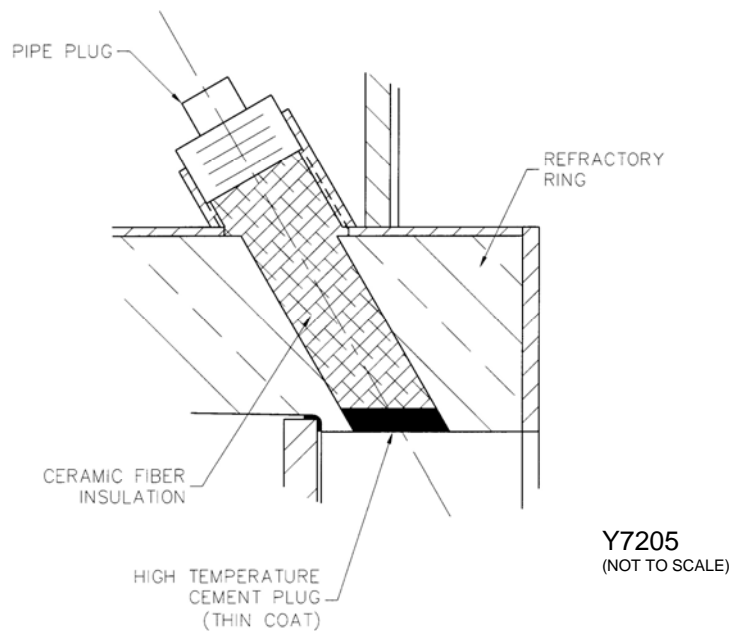

Figure 5. Port Sealing Arrangement
6. If the observation port, IPG pilot, and UV scanner must be relocated during installation due to interferences with piping, etc., the alternate ports can be utilized as follows (see Figure 5):